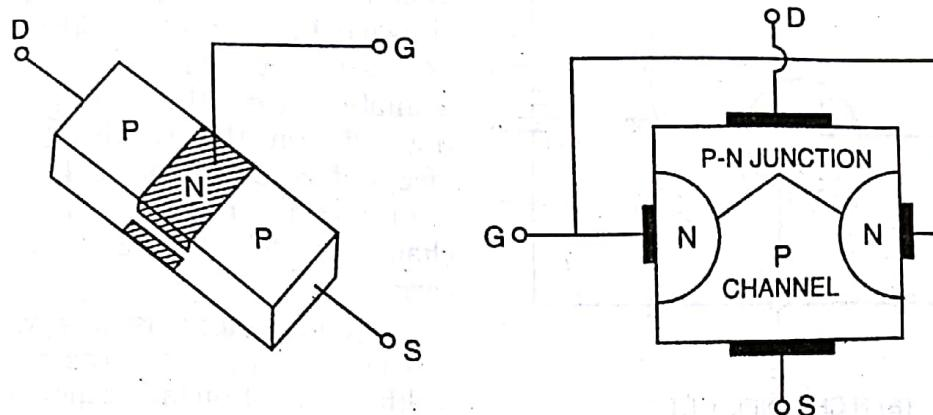

Fig. 9.2. P channel JFET
(2) P channel JFET : It consists of a thin bar of P type semiconductor with two junctions with the N type semiconductor near the centre, at opposite faces of the bar. Thus we get two P-N junctions on either side of the bar (Fig. 9.2). Both the N type semiconductors are connected internally. The common terminal is called the *gate G*. The